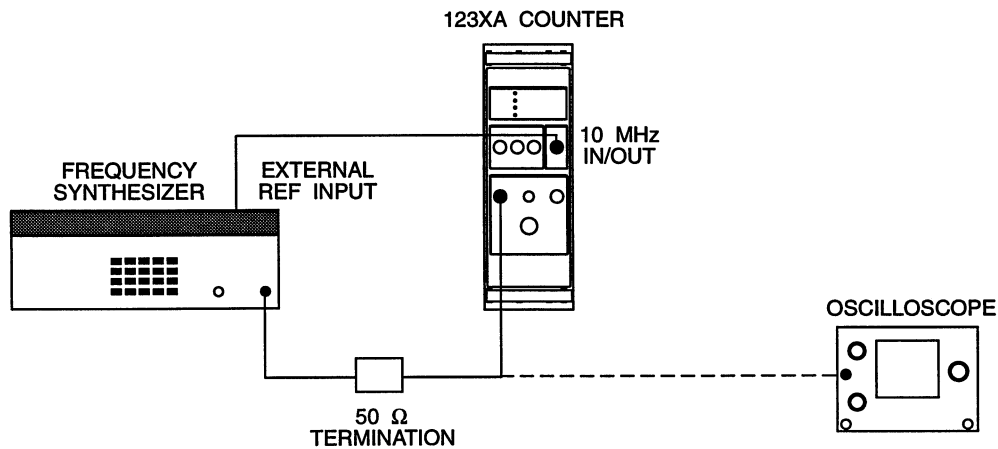

Figure 4-2. Band 0 Test Setup (100 Hz to 10 MHz).
1. Connect equipment as shown in Figure 4-2.